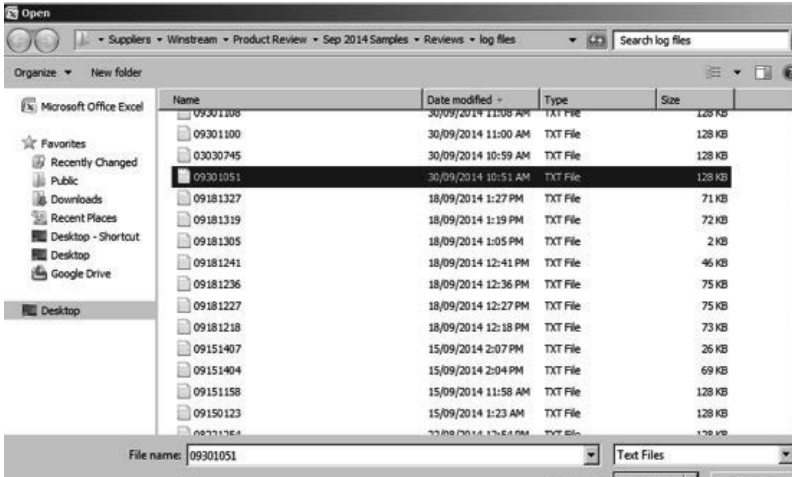

Fig 5.1 Screen Showing .txt Files
- All Text Files (.txt) will be displayed. The screen will look like Fig 5.1.
- Click "Open" Button (Bottom right corner of Fig 5.1).